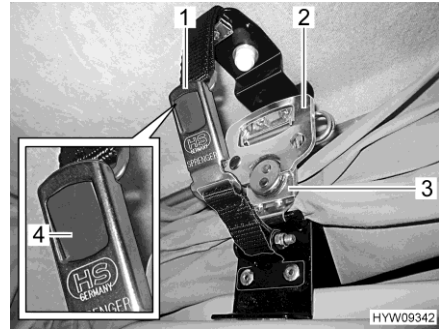

Fig. 56 Lock (elevating roof)
- Open the snap lock (Fig. 56,1) on both sides. In order to do this, press the grey push button (Fig. 56,4).
- On each side, fold out the handle (Fig. 56,2) of the quick-action turn-buckle (Fig. 56,3) and turn half a turn in an anticlockwise direction. Thus, the lock is released.